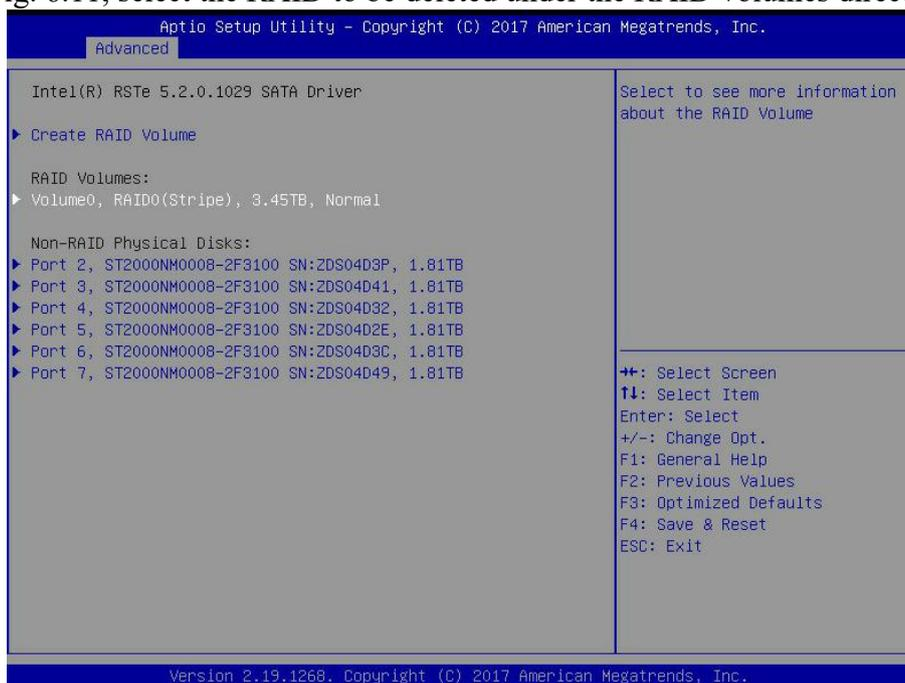

Fig.6.11
- b) As shown in Fig. 6.11, select the RAID to be deleted under the RAID volumes directory and press enter.